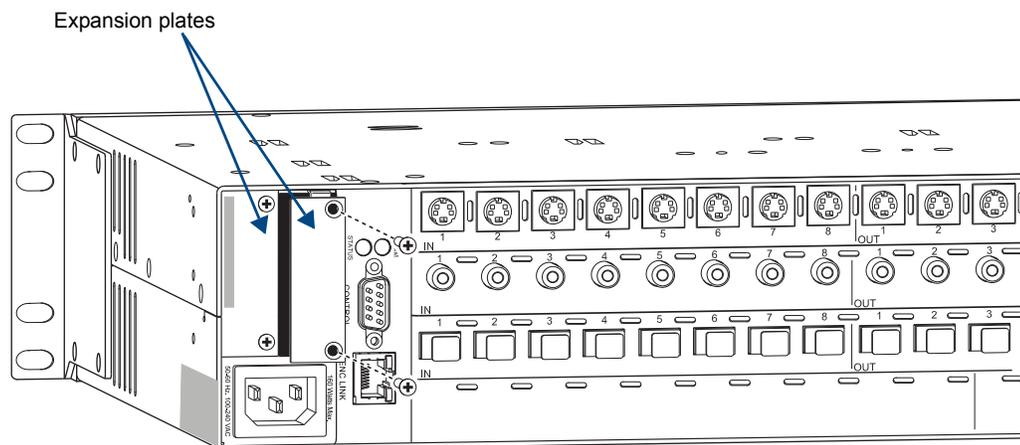

FIG. 74 Remove one of the expansion plates
2. Remove the screws from one of the expansion plates; set the plate aside (FIG. 74).